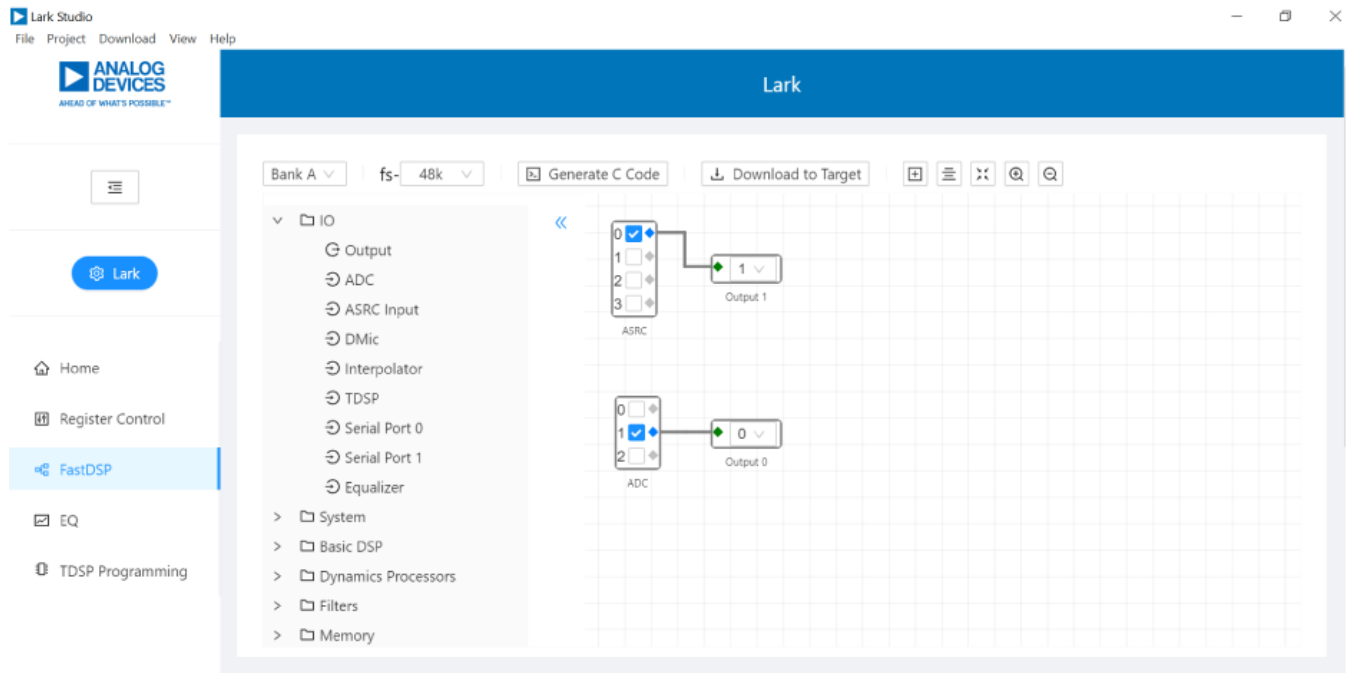

Figure 6. FastDSP Schematic Configuration
3. Select and drag an icon into the schematic window, for example, the **ADC** icon within the **IO** folder (see Figure 6). In this example, AIN1 and ASRC10 are being routed to FastDSP Output 0 and Output 1 separately.